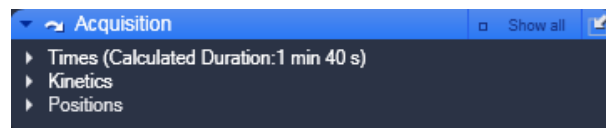

Fig. 38 Acquisition panel
- Click on the **Acquisition** register to open the **Acquisition** panel (Fig. 38). Click on any other register to leave the panel.